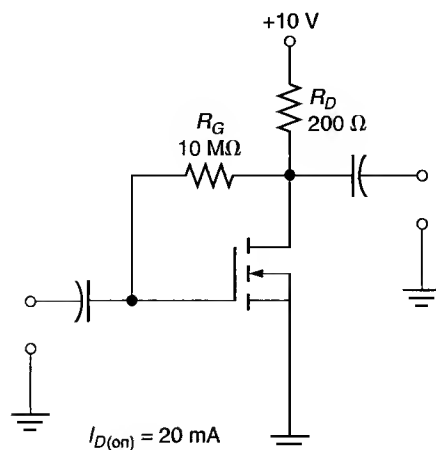

FIGURE 13.33
15. Calculate the values of I_D and V_{DS} for the amplifier in Figure 13.33.